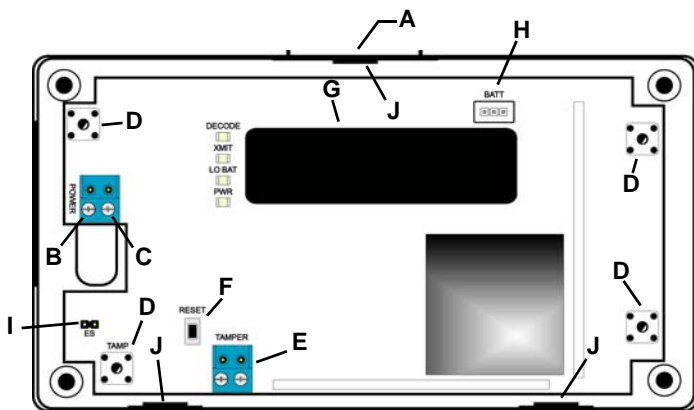

Figure 1 EE5000 Components
1. Use a small screwdriver to press the housing release tab on the top of the repeater (Fig. 1).
2. Connect power cabling to the power connections (Fig. 1).
3. Plug the connector cable from the backup battery into the battery connector (Fig. 1).
4. Place a selection jumper on the enable EchoStream selection pins (Fig. 1).